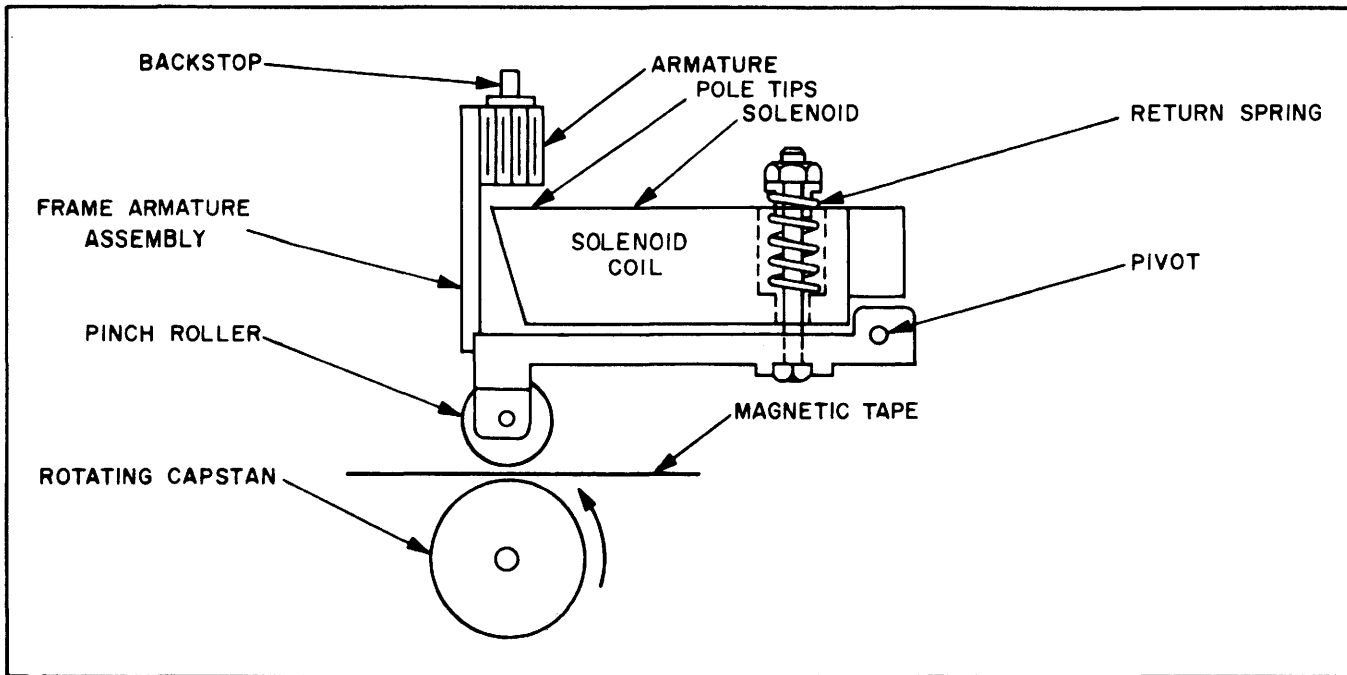

Figure 4-4. Pinch Roller Solenoid (Simplified)
**4-2-5-2.** Tape motion is initiated by pressing the tape against one of the rotating capstans. This action is performed by the pinch roller solenoid assemblies. Since the capstans rotate in opposite directions, pressing the tape against the forward capstan roller results in tape motion from the supply to take-up reel. Tape motion in the opposite direction is initiated by the reverse pinch roller solenoid assembly. The solenoid consists of a coil housing, frame armature assembly, backstop, pinch roller and return spring. The basic principle of operation is illustrated in figure 4-4. When current is applied to the solenoid coil, the armature is attracted to the pole tips and the entire frame armature assembly is pulled down toward the capstan.